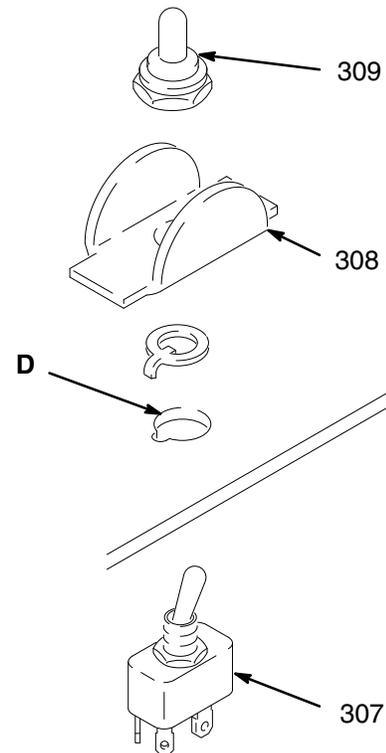

Fig. 17
On/Off Switch Replacement (Fig. 17)
4. Using a 5/8 in. socket wrench, remove the nut and rubber boot (309). Remove the switch guard (308). See Fig. 17.
5. Remove the ON/OFF switch (307).
6. Install the new switch so the internal tab of the pressure control housing (D) engages with the vertical groove in the threads of the switch.
7. Install the switch guard (308), aligning the internal tab with the groove in the threads.
8. Powder the inside of the rubber boot (309) with talcum powder, then shake the excess out of the boot.